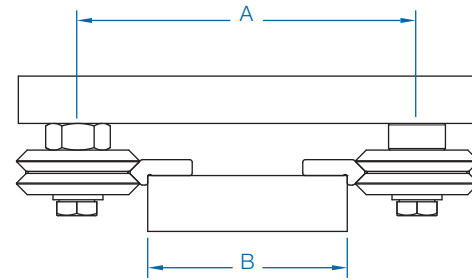

Figure 1 Inboard Mounting
- Inboard Mounting (See Figure 1): $A = B + X$